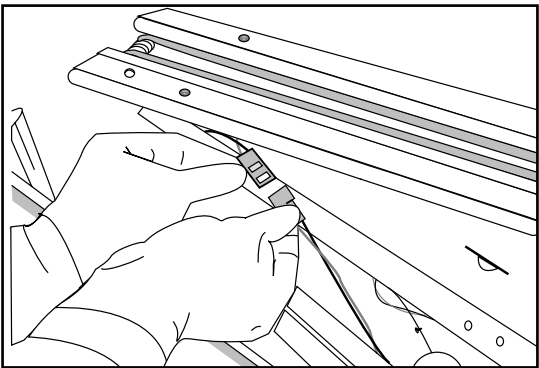

Figure 9.10
- 2. Use both hands to reconnect the sensor connector (Figure 9.10).